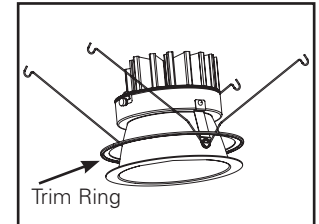

Figure 32.
4. Trim ring (optional) should be placed over reflector so it rests between reflector flange and ceiling when installed (Figure 32.).